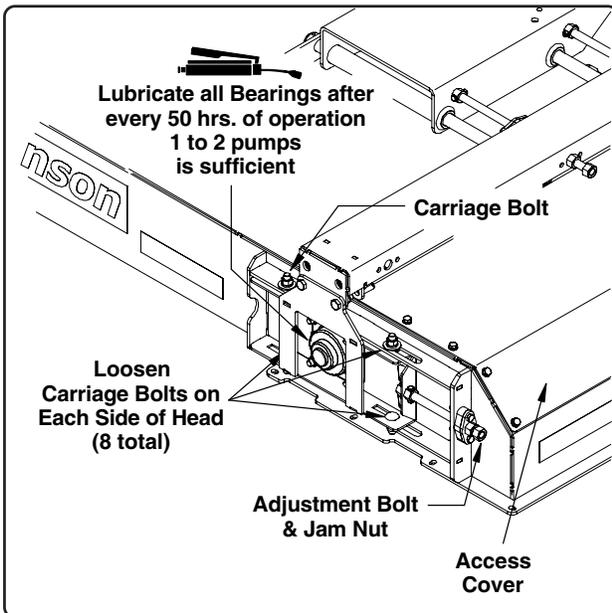

Fig. 2
To adjust the chain to proper tension, loosen the four (4) carriage bolts on each side of the head (total of eight carriage bolts), See Fig. 2.